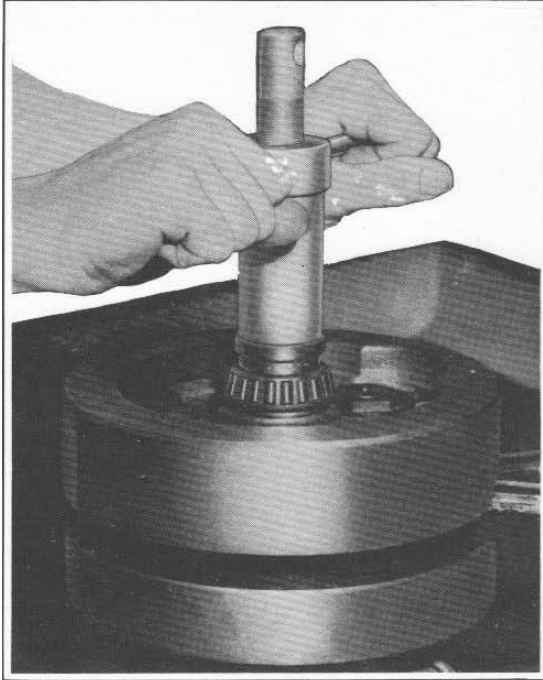
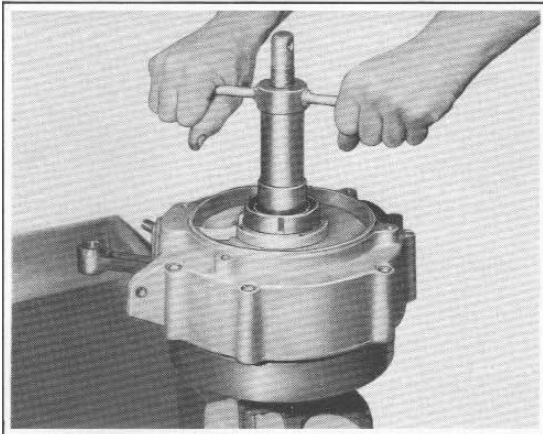

Figure 3-44. Pressing Bearing on Sprocket Shaft
Figure 3-45. Pressing Flywheel into Crankcase
Position flywheel assembly, sprocket shaft up, in vise with copper jaws. Press bearing (15) on sprocket shaft using Bearing Installing Tool, Part No. 97225-55. Sprocket shaft spacer 24036-66 may be needed with bearing installing tool as shown in figure 3-44. Press the parts on using sprocket shaft spacer as a pressing tool only. Turn tool screw onto sprocket shaft thread and tighten securely. Remove tool and slip the bearing, small end up, over sprocket shaft, starting it squarely. Install the small bearing spacer (10) and tool sleeve and press bearing against flange on flywheel
using the tool as shown in figure 3-44. Slip crankcase half, with outer race parts installed, over shaft. Slip bearing over tool screw, small end down toward bearing inner spacer. Position tool sleeve and turn on driver. Turn driver down against sleeve pressing bearings tightly together as shown in figure 3-45. Bearings must be tight against the bearing spacer to provide correct bearing clearance.